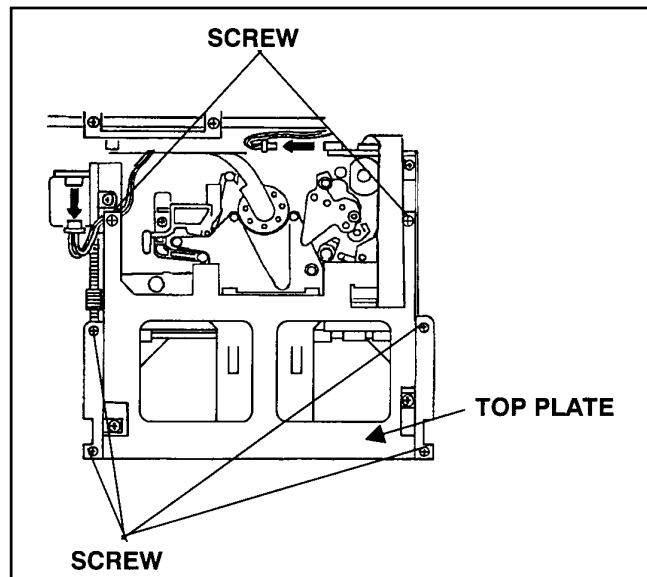

Figure 1-8-1
3. Unscrew the 6 screws and remove the Top Plate on the Front Loading Unit as shown in figure 1-8-1.